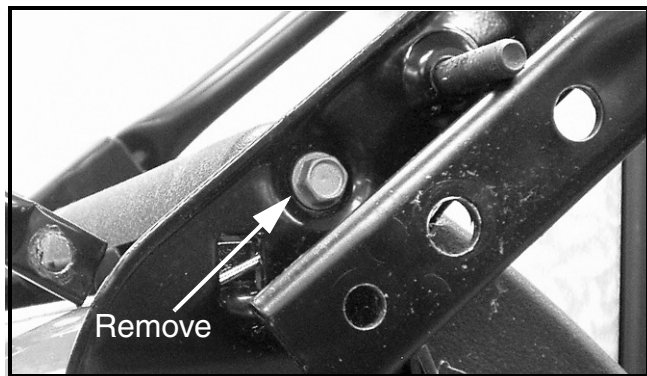

FIGURE 9
18. Using a 3/8" socket and ratchet, remove the left side screw securing the rear door pivot rod to the handle bracket. See Figure 9.